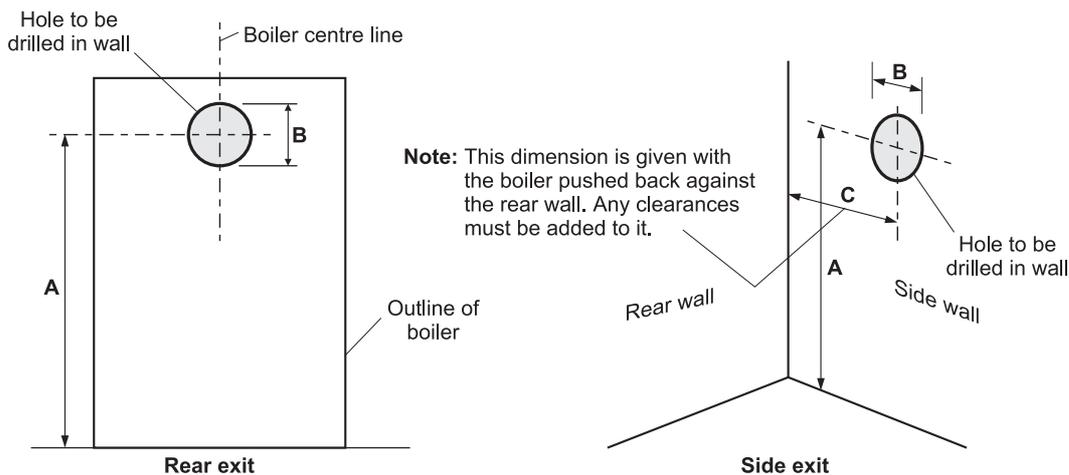

Fig. 20a - Low level balanced flue (Yellow system) and Starter kit (Green system)
If the boiler is to be used with a low level balanced flue (Yellow system) make the hole in the wall for the flue as shown in Fig. 20a.
**Note:** Dimension B given in Fig. 20a includes an extra 10 mm over the size of the terminal to provide clearance for fitting.